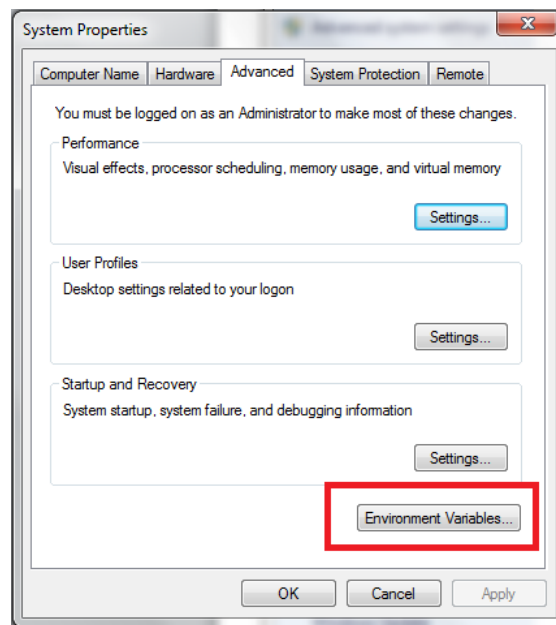

Figure 26. System Properties Window
- Step 4. In the *System Properties* window, click the *Environment Variables* button on the *Advanced* tab (see Figure 26).